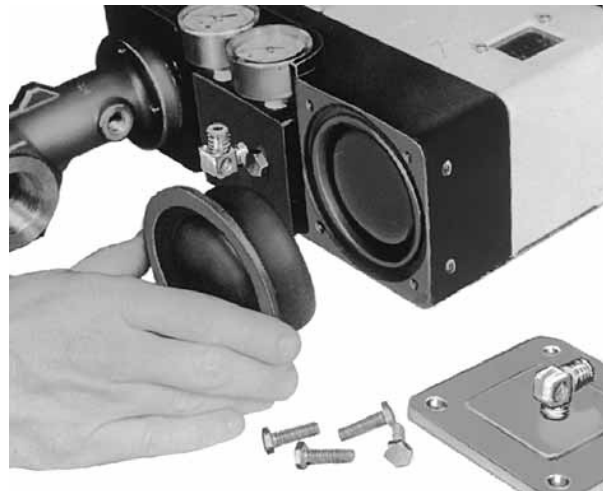

Figure 17 - Diaphragm replacement
5.1 Actuator Diaphragm Removal (Figures 17, 24, 25, 26 and 27)
- A. Unscrew the two pressure connection nuts (138a) and pull tubing (140) out. Remove the four cap screws (139) and diaphragm cover (137). Remove the worn diaphragm. Form new diaphragm (136) and fit it on the piston as shown in figure 17. Fit the diaphragm roll into the bracket groove. Take care not to twist or bend the diaphragm during replacement. Refit diaphragm cover (137) with the four screws (139) and reconnect the tubing with the two pressure connection nuts (138a). Check that all connections are leaktight.